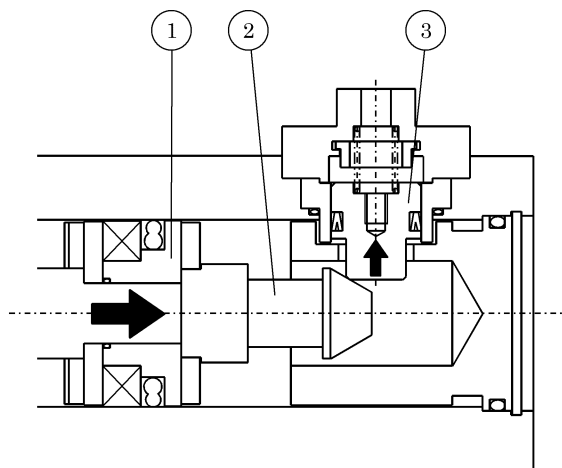

Fig. 1
- (a) Stopper piston ③ is pushed up by the slant of sleeve tip ② as the piston ① of cylinder approaches to its stroke end. (Fig. 1)